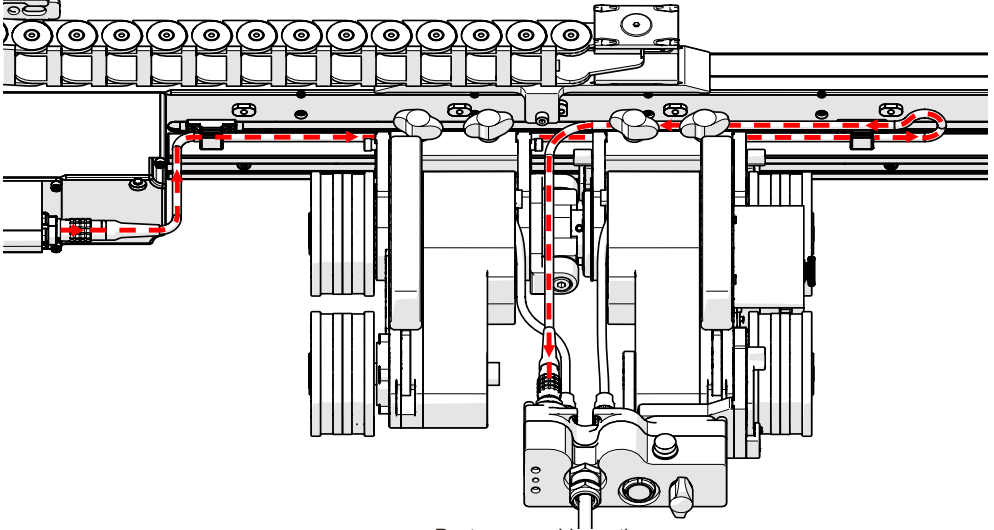

Fig. 111 - Raster arm cable routing
1. Plug the supplied raster arm cable into the raster arm's connector (Fig. 111) located on the raster arm encoder housing. Pinch the cable into the first cable bracket on the side of the raster arm encoder housing.